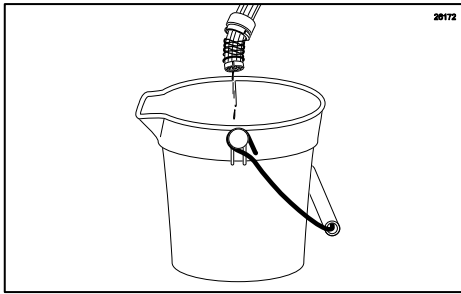

Figure 57
5. Place the end of the 9-Tube Assembly into a container to catch the expelled syrup and sanitizer solution during the Clean-In-Place procedure. (See Figure 57.)